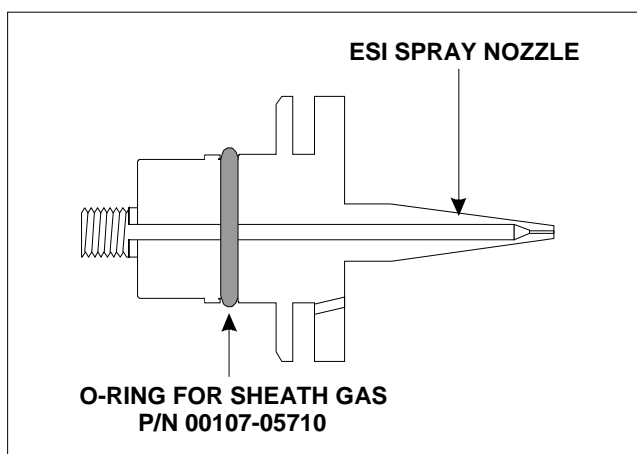

Figure 5-9. ESI spray nozzle, showing the O-ring placed in the pre-cut groove.
3. Ensure that the 0.676-in. ID O-ring (P/N 00107-05710) for the sheath gas on the ESI nozzle is in good condition. In addition, ensure that the O-ring is placed into the pre-cut groove on the ESI nozzle. See Figure 5-9.